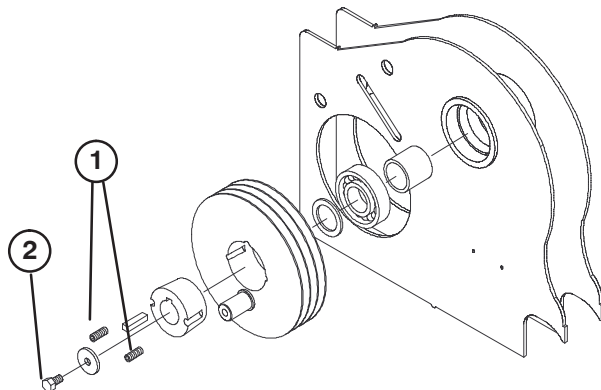

Figure 29
After first 10 hours of operation torque set screws securing taper lock bushings to driven pulleys to 37 ft. lbs. (50 N·m) (2 each pulley) (Fig. 29).
3. Remove M12 bolt securing the taper lock assembly to the opposing crank arm (Fig. 29)